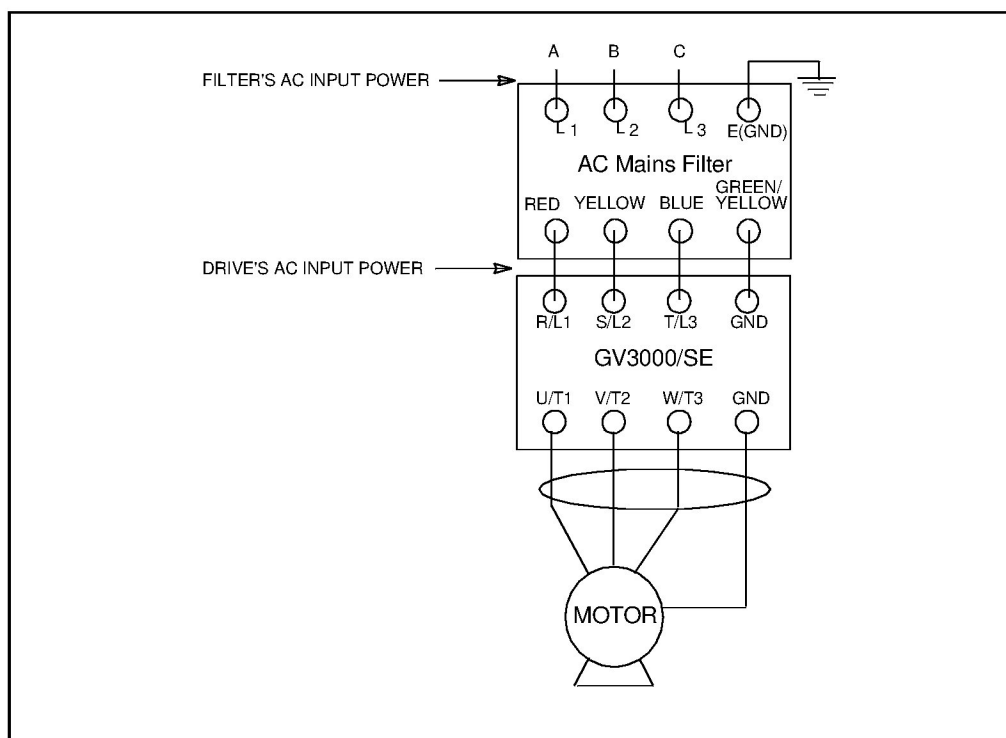

Figure C.5 – Typical Three-Phase Connections for AC Mains Filters
The power leads that connect the output terminals of the AC Mains Filter to the drive's AC input terminals are included with the filter. The flexible conduit to be used with these power leads is also provided. See figure C.5.
- When the drive is connected to three-phase AC input power, the three output leads from the filter should be connected to the drive's AC input power terminals as shown in figure C.5.